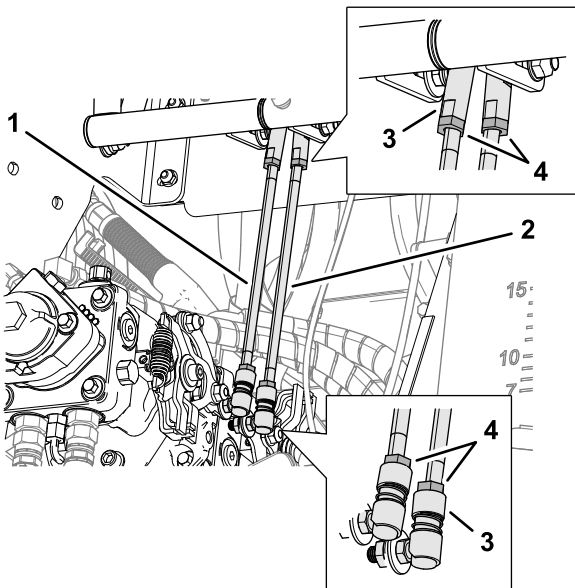

Figure 98
3. Loosen the 2 jam nuts that secure the motion-control rod at the upper and lower ball joints (Figure 98).
5. Tighten the jam nuts (Figure 98).